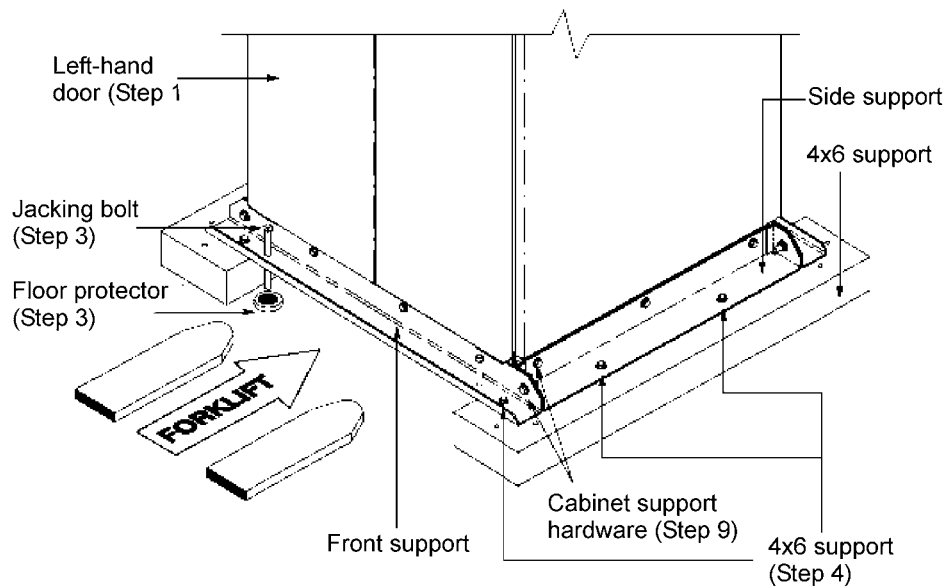

Figure 4-1. Removing shipping supports
1. If not already accomplished, use a forklift to move the cabinet to the installation area, or as close as possible, before unloading from the pallet. Insert the forklift from the front of the cabinet (see Figure 4-1).